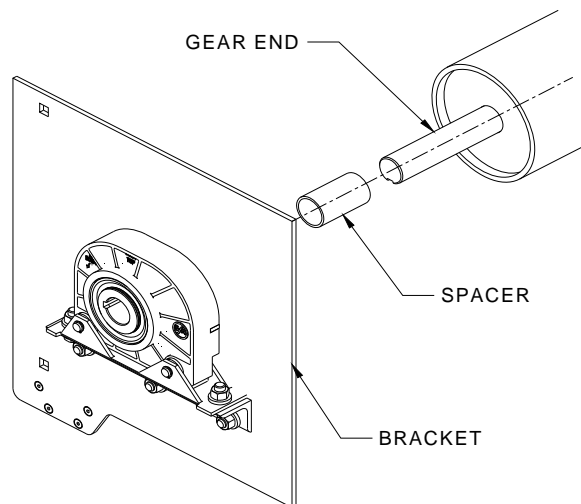

Figure 6.2 – Barrel Markings (right hand operation shown)
5. Prior to installing brackets onto the shaft, install the provided spacers onto the shaft. See **Figure 6.2** below.